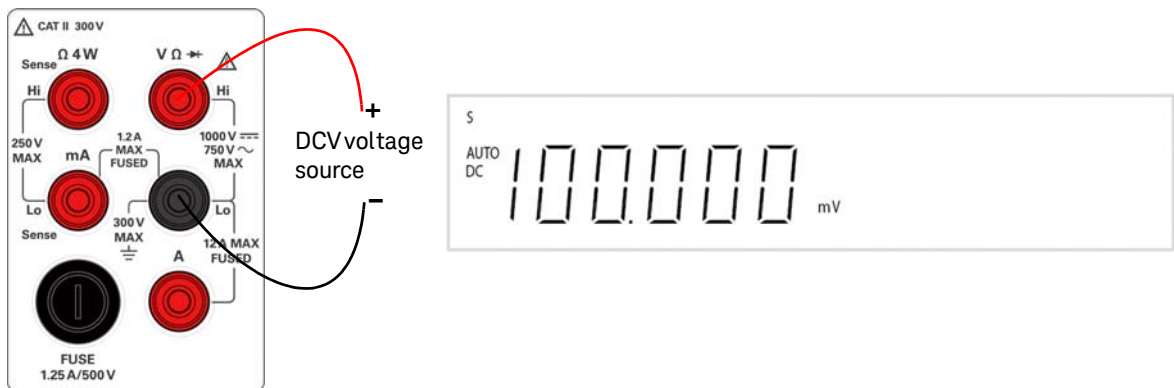

Figure 1-11 DCV terminal connection and display
- 2 Connect the red and black test leads to the respective input terminals as shown in Figure 1-11.